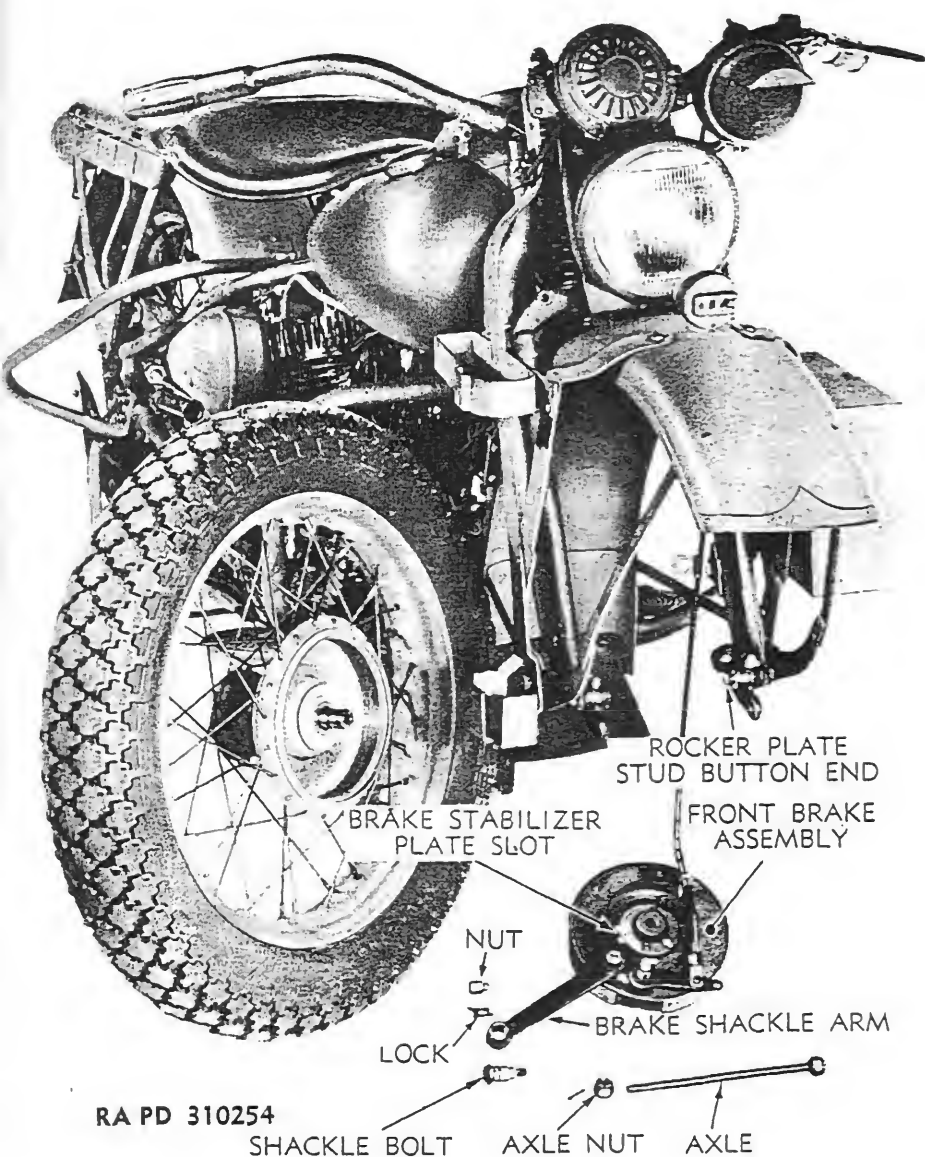

Figure 81—Disassembly for Front Wheel Removal
125. FRONT WHEEL REPLACEMENT (fig. 81).
b. Install (fig. 81). NOTE: At the time wheel and brake assembly is located in front fork, and before axle is installed, make sure that the curved slot in brake stabilizer plate engages with the button end of the left-front rocker plate stud.
- (1) Install brake assembly in brake drum.
- (2) Roll wheel into position. Engage stabilizer plate notch and rocker plate stud button end, and at same time insert front axle.
- (3) Install castle nut (no lock washer used) on axle and securely tighten.